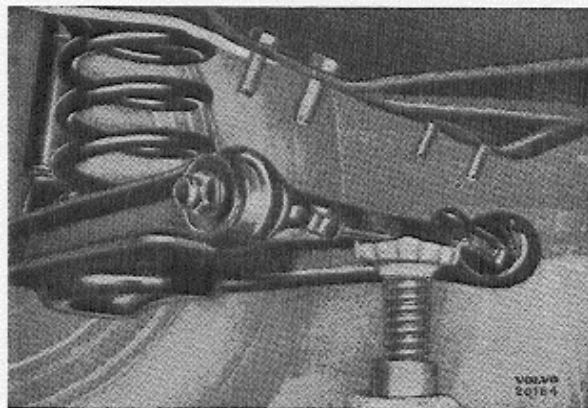

Fig. 1. Removing front springs.
3. Place a jack under the lower control arm and unscrew the four nuts on the front axle support member bracket. Fig. 1.
2. Lift up the control arm until the spring rests with the upper end in the seat on the front axle support member, then place a jack under the control arm Fig. 1.